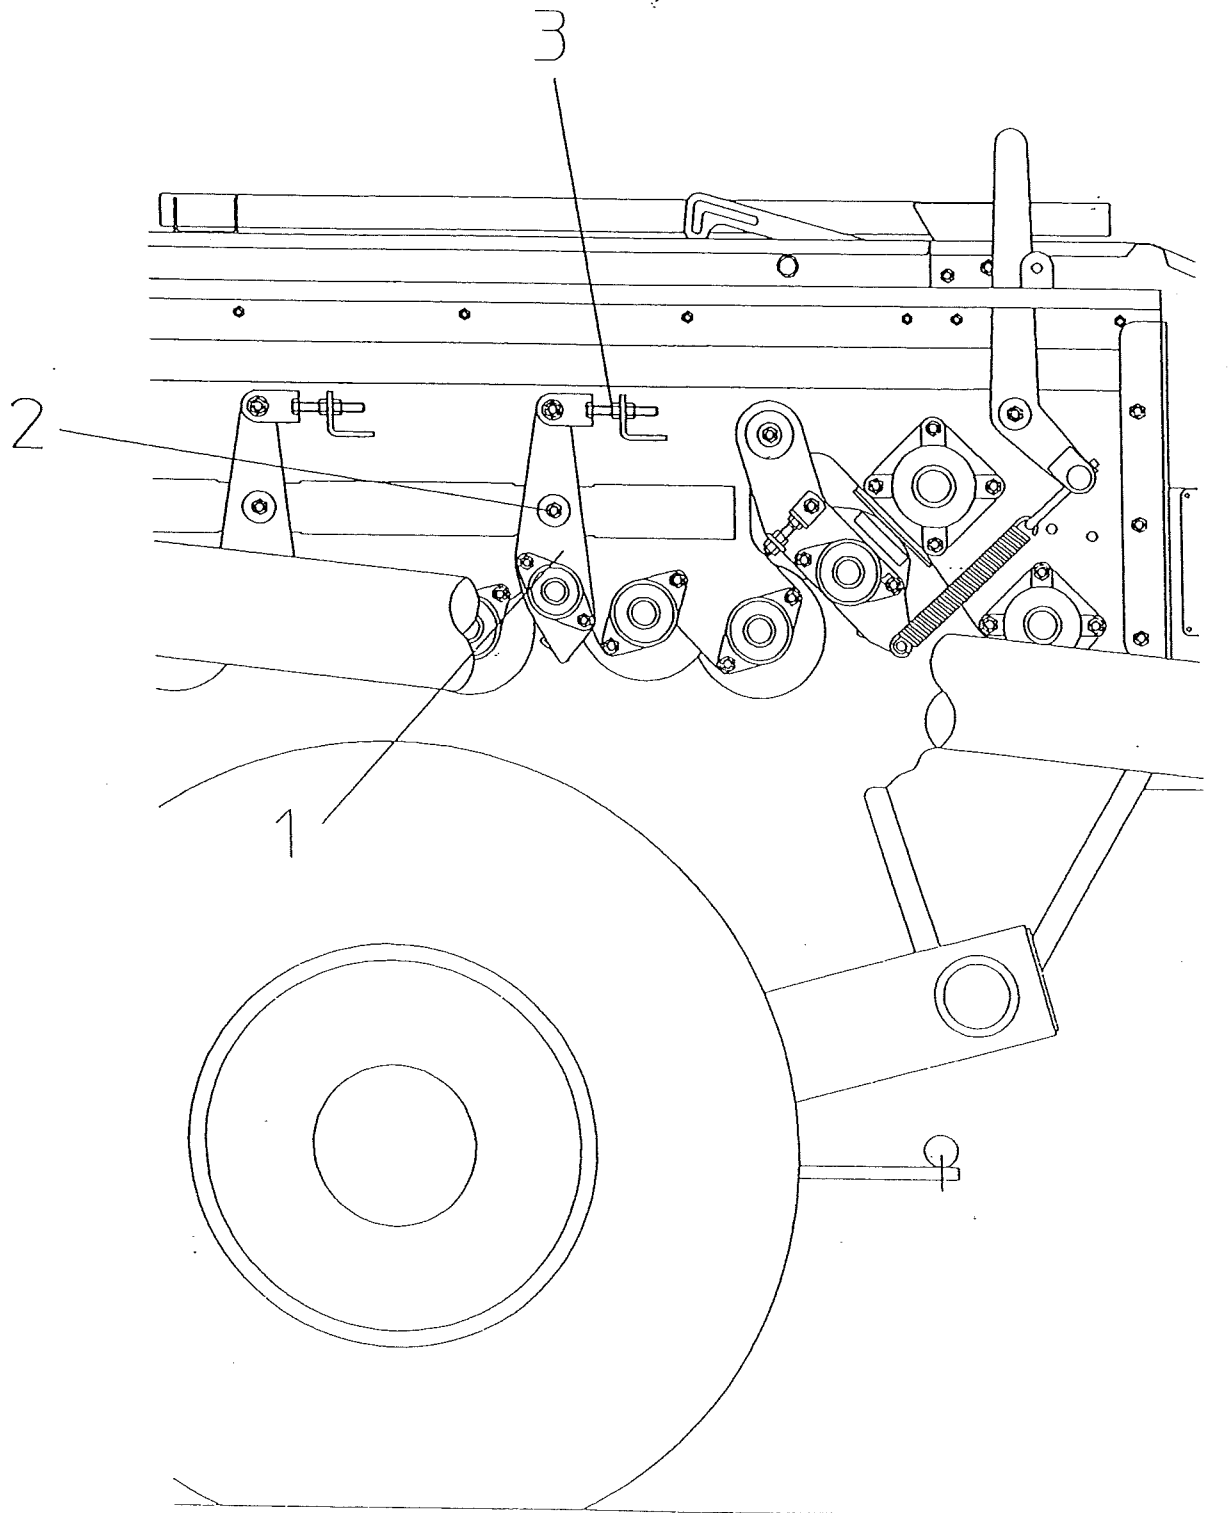

Fig 7.7
The three clod rollers are independently adjustable on their mounting arms (fig 7.7 item 1). Adjustment is carried out by slackening the two bolts (one each side) locking the clod roller mounting arms to the side panels (fig 7.7 item 2), for the clod roller you wish to adjust. The arms are held in position by adjusting bolts, (fig 7.7 item 3 both sides), slacken the nuts and adjust the position of the clod rollers. It is important that the clod roller adjustment is carried out so that both ends of the rollers are parallel to the star shafts. After adjustment all nuts and bolts must be re-tighten.